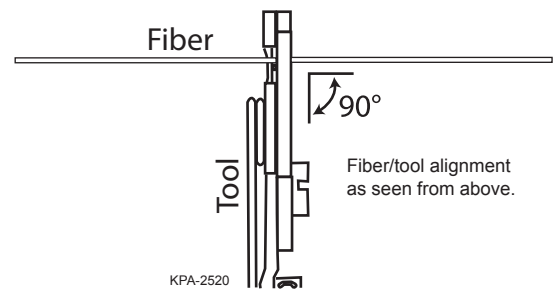

Figure 2
- Step 1:** For the most consistent results, hold the tool perpendicular to the fiber (Figure 2).